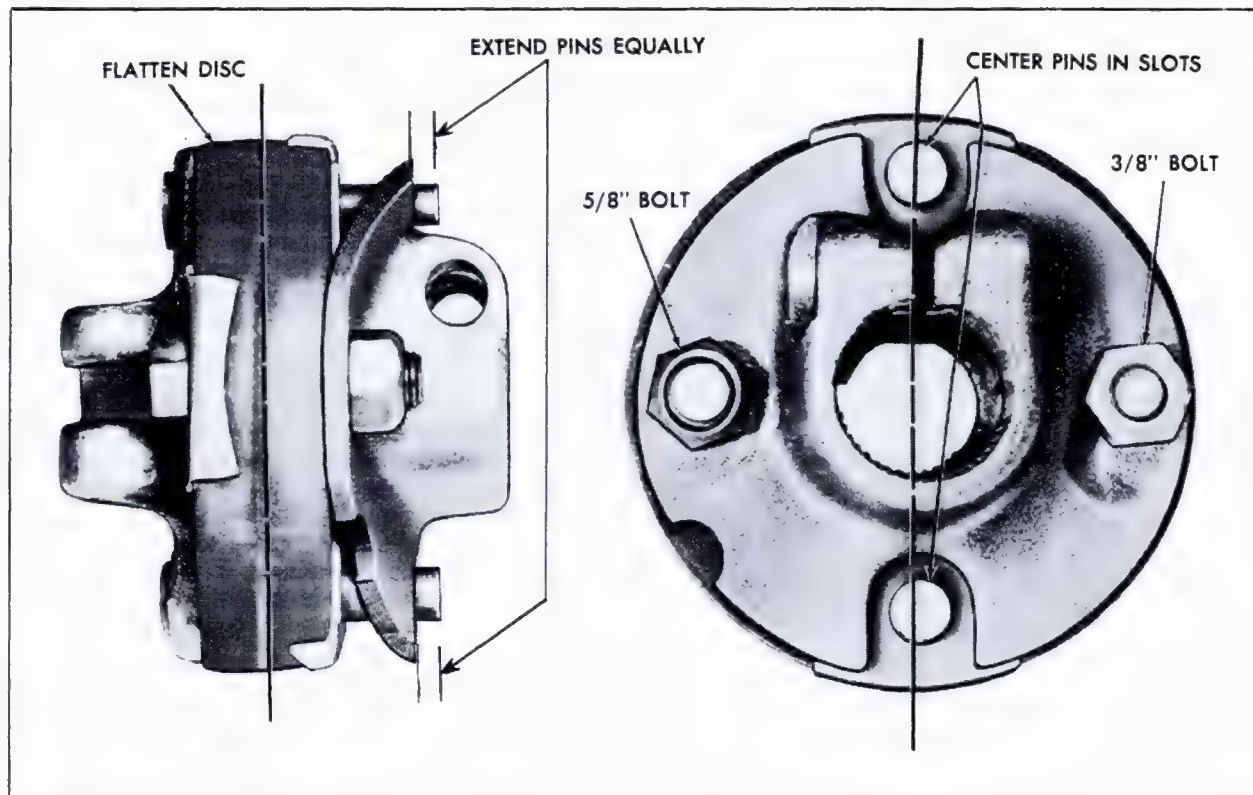

Fig. 9-11 Steering Shaft Flex Coupling
8. Check alignment of flex-coupling disc. The steering column and gear are correctly aligned when the rubber disc is flat and the pins are centered in the "C" slots in the upper flange. The pins should extend beyond the edges of the flange slots equally at both locations, Fig. 9-11. After alignment, tighten clamp screw to 30 foot-pounds.